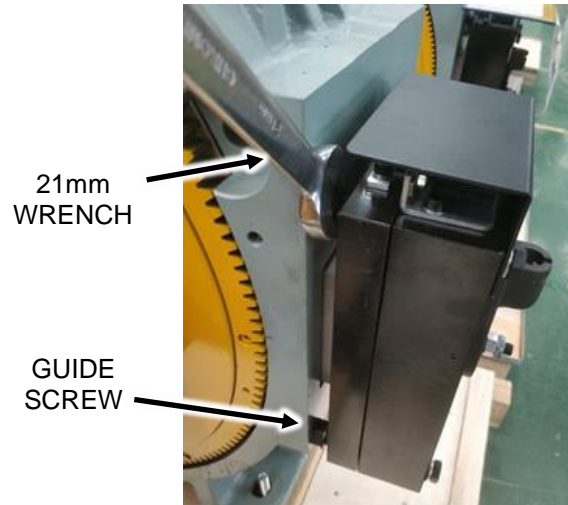

Figure 11
4. Rotate 4 guide screws clockwise, making sure they seat firmly on the base installing surface. See Figure 11.
2. Rotate 4 guide screws clockwise, making sure they seat firmly on the base installing surface. Figure 11